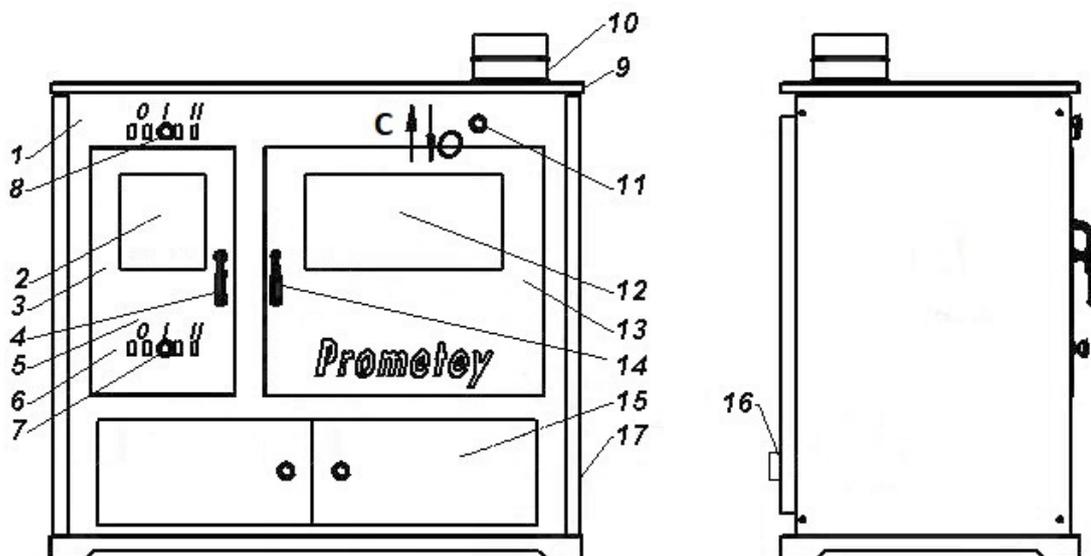

Figure. 2
3.1. Design and construction of the “Praktik” model cookers. They have the following units and details: (Figure. 2)